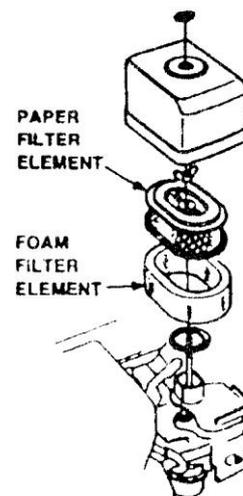

Figure 1 Air Filter
- 2.To clean or replace air filter loosen the wing nut on the air filter housing(Figure 1), remove the cover and take out air filter cartridge. If only cleaning of the air filter is desired blow through the air filter cartridge from the inside, moving a jet of dry compressed air up and down until all dust is removed.